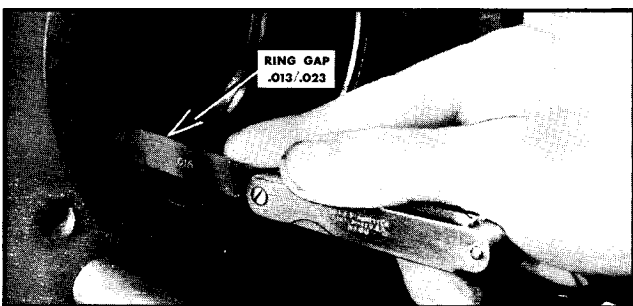

Fig. 2-32. Checking piston ring gap
- b. Measure ring gap with feeler gauge. See Table: Piston Ring Specifications above and Fig. 2-32.